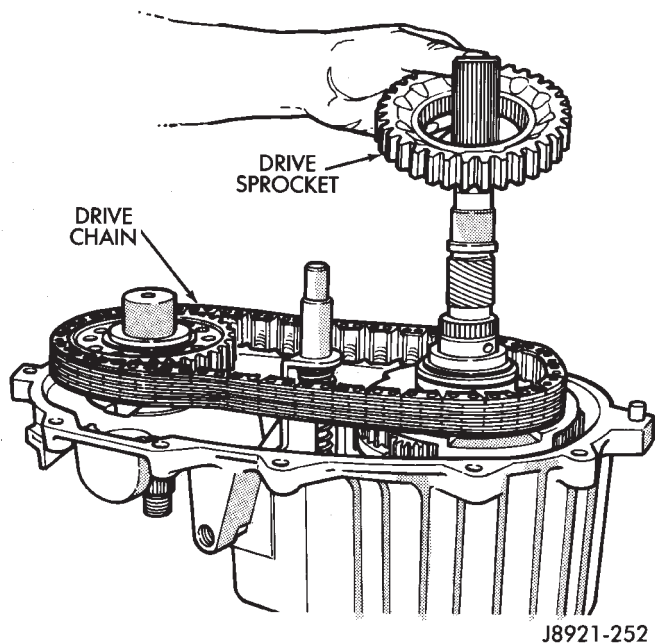

Fig. 20 Drive Sprocket And Chain Removal
- (2) Remove drive sprocket and chain (Fig. 20).